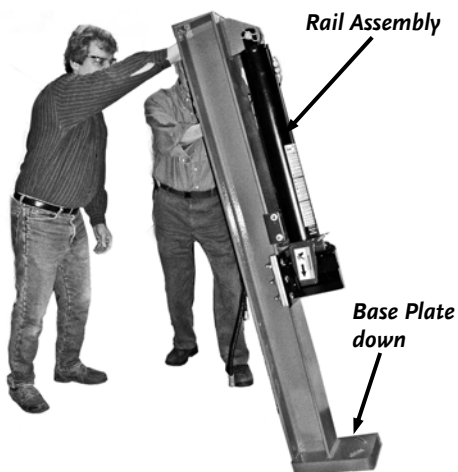

Figure 6
2. With a helper, carefully push the rail assembly off the pallet and stand it in an upright, vertical position with the base plate down (**Figure 6**).